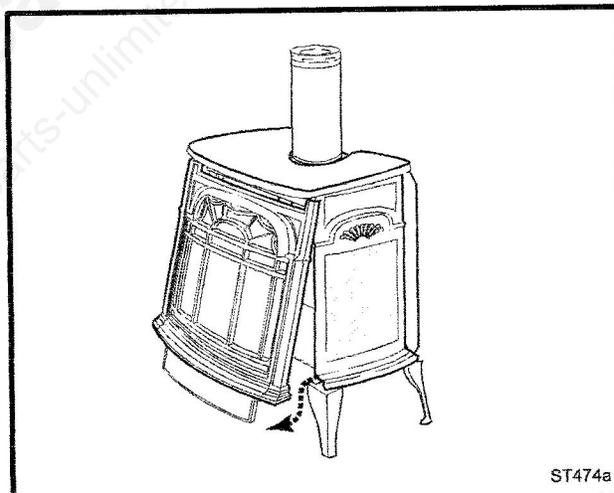

Fig. 69 Remove the Stove Front.
2. Lift the Stove Front up and then swing the bottom out to disengage it from the heater shell. (Fig. 69)
1. Remove the Front, Glass Frame and Glass Panel. (Figs. 69 & 70) Remove the old gasket. Use a razor blade to separate the glass and gasket from the frame, and to clean the glass of any remaining cement or bits of gasket. Use a cold chisel if necessary.